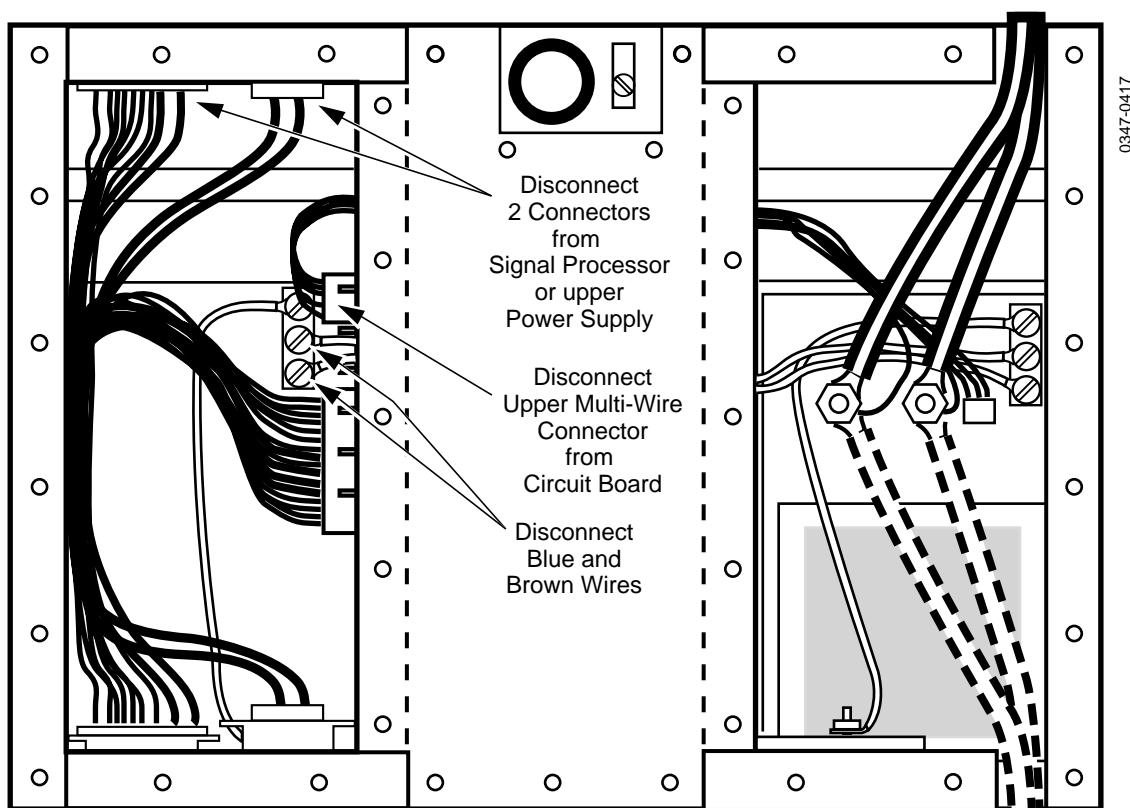

Figure 4-5. Removal of Pioneer Multi-Output Power Supply Assembly
1. Remove the left rear cover of the power supply frame, as viewed from the rear, to expose the wiring connections at the rear of the Multi-Output power unit. See Figure 4-5.